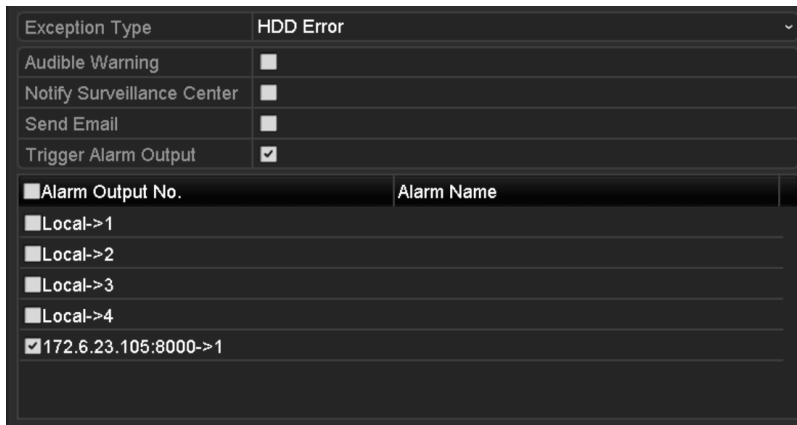

Figure 12-27 Configure HDD Error Alarm
Step 3 Click the checkbox(s) below to select the HDD error alarm type (s), as shown in Figure 12-27.